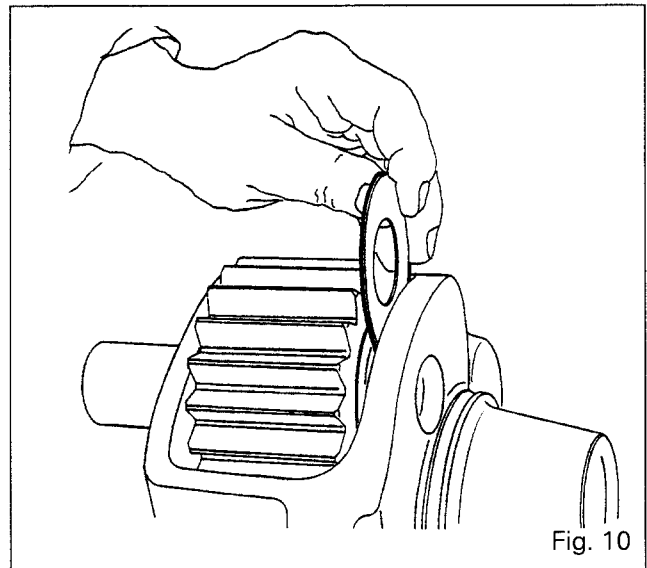

Fig. 10
15. Pull out the three pins slightly and fit the shims [13] selected in procedure 14 (Fig.10).
16. Push in the three pins and fit the circlip (11).